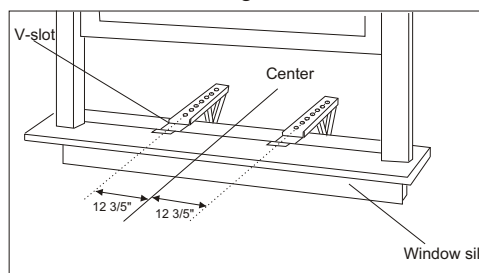

Fig. 8
C. Measure the inside window sill width and find the center as shown in (*Fig. 8*), and measure 12 3/5" either side of the center line. Align the **V-slot** in each bracket on these marks and mount the brackets to the sill using **3/4" screws** provided. Brackets should be perpendicular to the inside window sill. See (*Fig. 8*).
Use a solid piece of wood to provide stability. This will be required when sills are extra deep. See (*Fig. 8*).